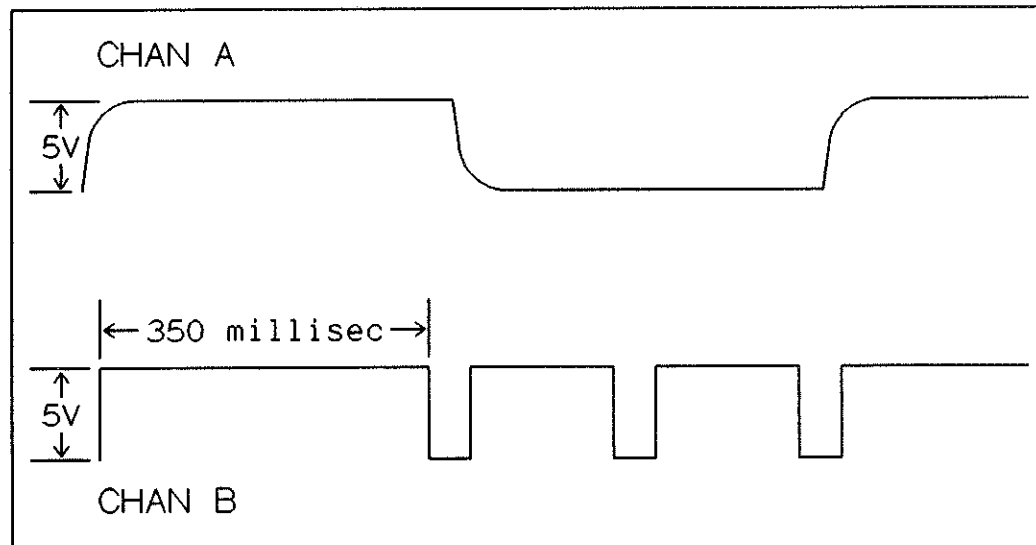

Figure 21-5 SYNC DAC Waveforms
10. Verify that the waveform displayed on the oscilloscope is as shown in Figure 21-5. The sync pulse on channel B of the oscilloscope should consist of three pulses for every output pulse. The uneven spaced pulses should be approximately 350 nS wide.
27. Verify that the waveform displayed on the oscilloscope is as shown in Figure 21-5. The sync pulse on channel B of the oscilloscope should consist of three pulses for every output pulse. The uneven spaced pulses should be approximately 350 nS wide.